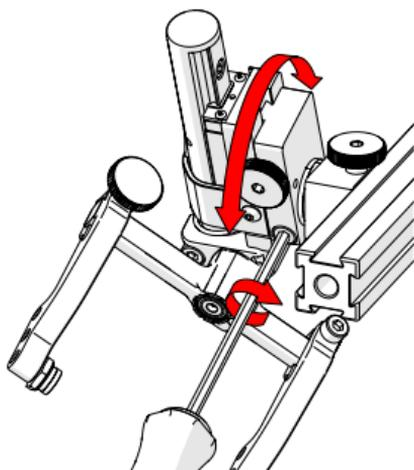

Fig. 78 - Rotate to position
3. Rotate the main body of the probe holder until it is at the desired angle (Fig. 78).
4. Tighten the longitudinal adjustment screw (Fig. 78).